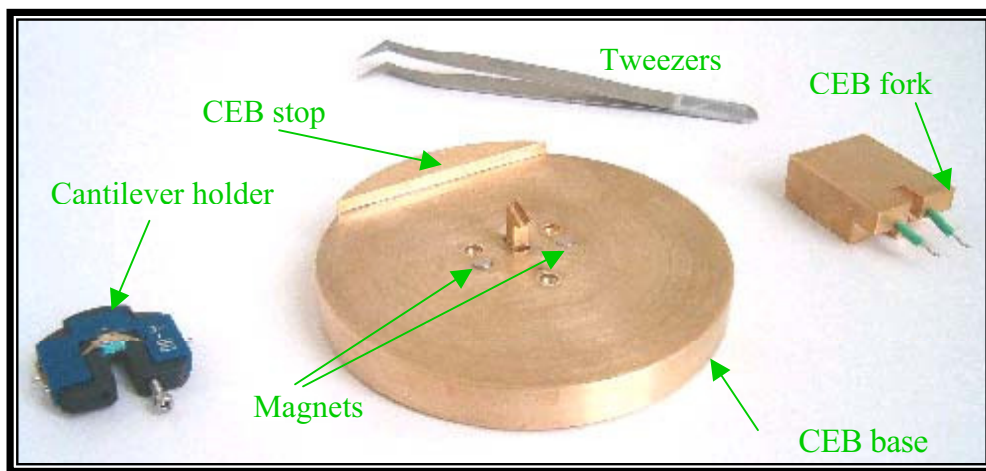
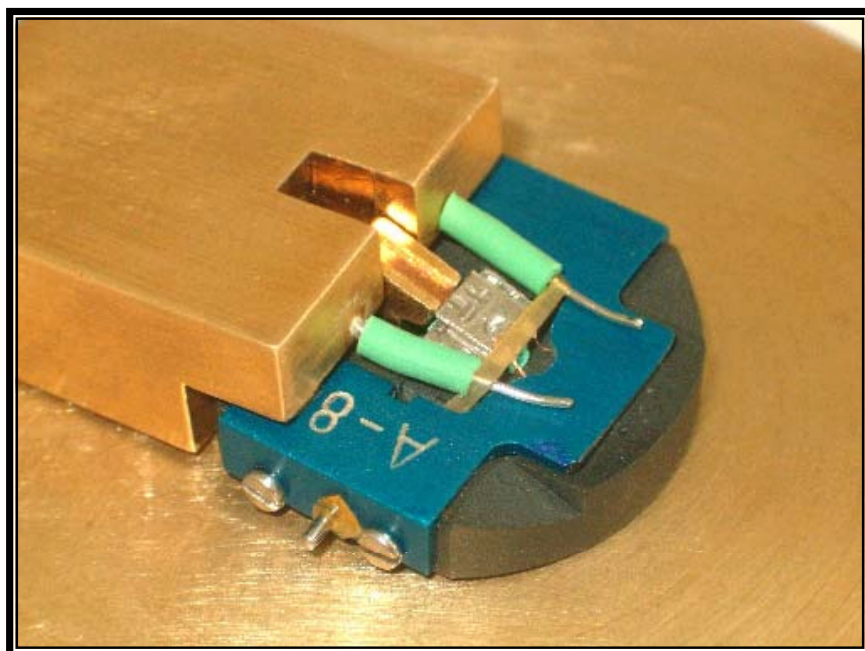
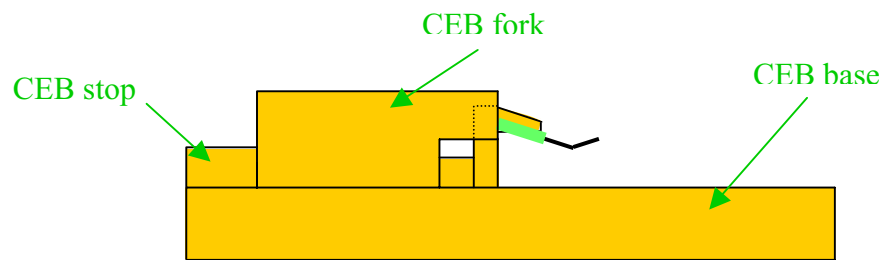

Fig. 2.15: Required parts.
Fig. 2.18: Stretching the rubber strip.
Fig. 2.19: Diagram showing the CEB fork position, held in place on the CEB base by the CEB stop after stretching the rubber strip.
To use the cantilever exchange bay (CEB) to exchange cantilever chips, an SPM user will need the parts illustrated in Fig. 2.15 below.
3. Once you have positioned the CEB fork under the rubber strip, stretch the rubber strip by pushing the CEB as shown in Figure 2.18.
The entire CEB fork will now fit onto the CEB base. The CEB stop (see Fig. 2.15 and Fig. 2.19) will clamp the CEB fork into position with the rubber strip stretched as shown in Fig. 2.18, leaving an open space in which to place the cantilever chip.